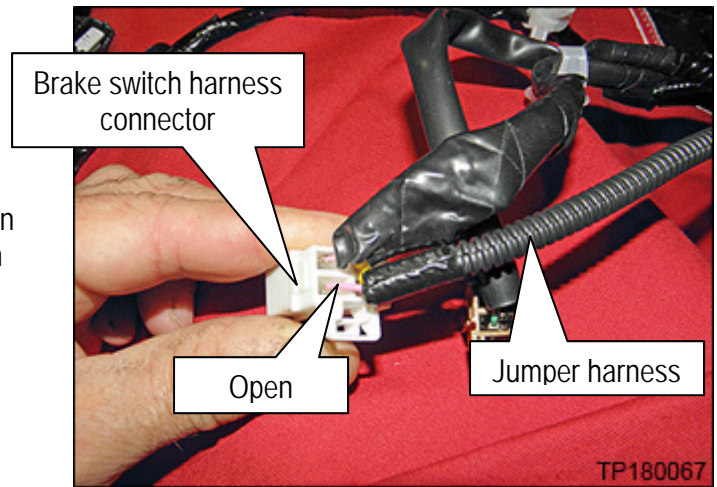

Figure 47
51. Insert the jumper wire connector into the open cavity of the harness side of the brake switch harness connector as shown in Figure 47.